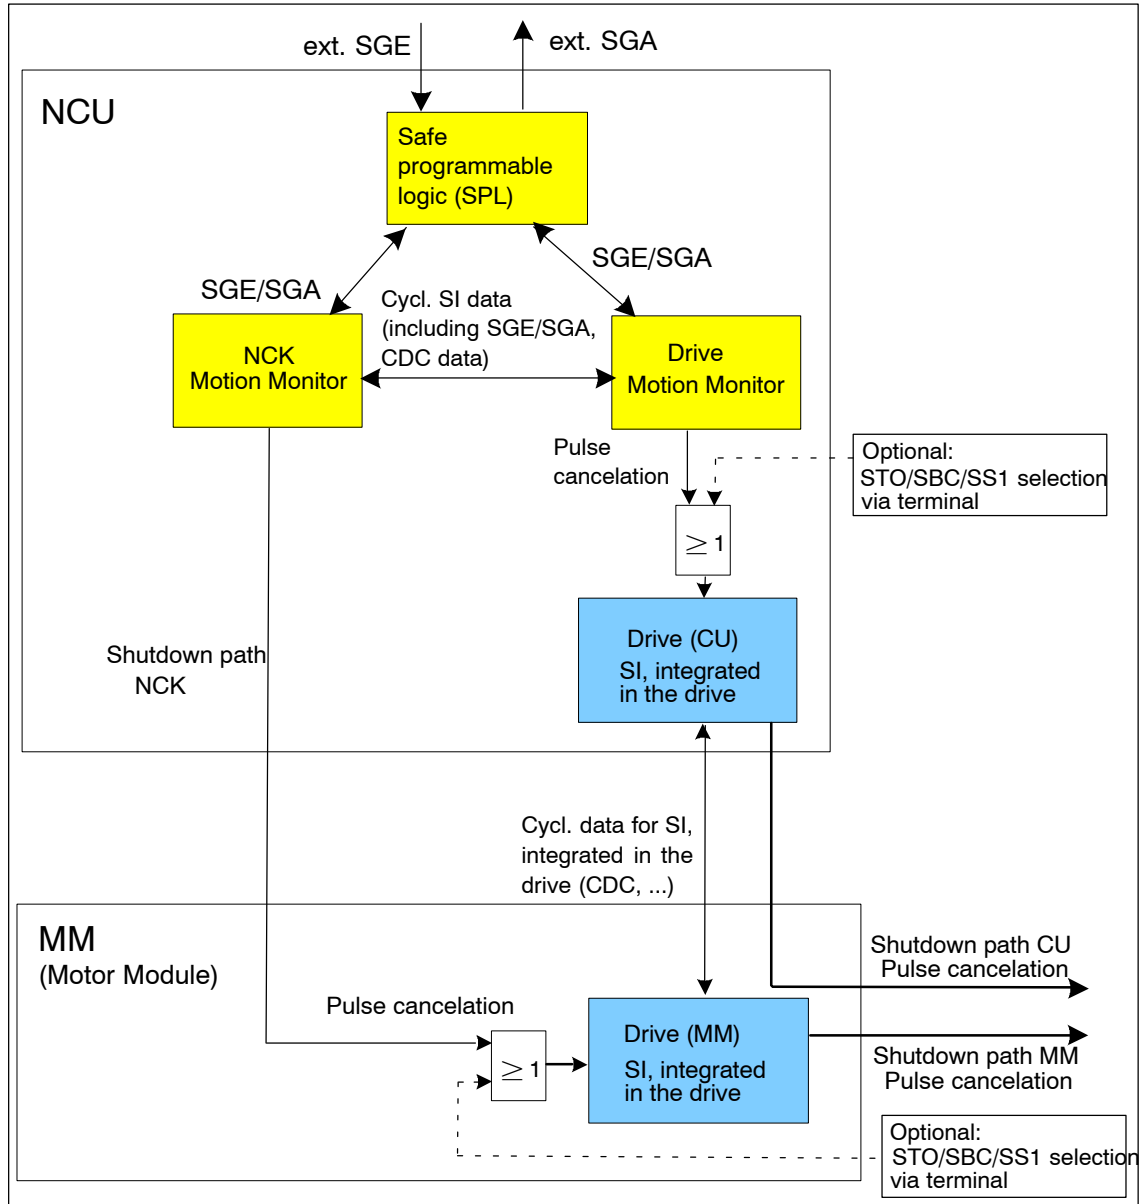

Fig. 6-1 Overview of the shutdown paths
This Chapter describes the safety function "safe standstill" (SH), controlled from the safety-related motion monitoring functions. The function is based on the safety functions STO/SBC of the drive (see Chapter 4). Fig. 6-1 shows the interrelationships.
The interaction of the safety functions integrated in the drive and the motion monitoring functions (Motion Monitor) are shown in Fig. 6-1.